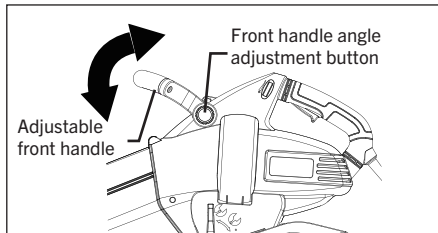

FIG. 7
1. Press the front handle angle adjustment button located on the left side of the adjustable front handle, and adjust the handle angle as desired (Fig.7).